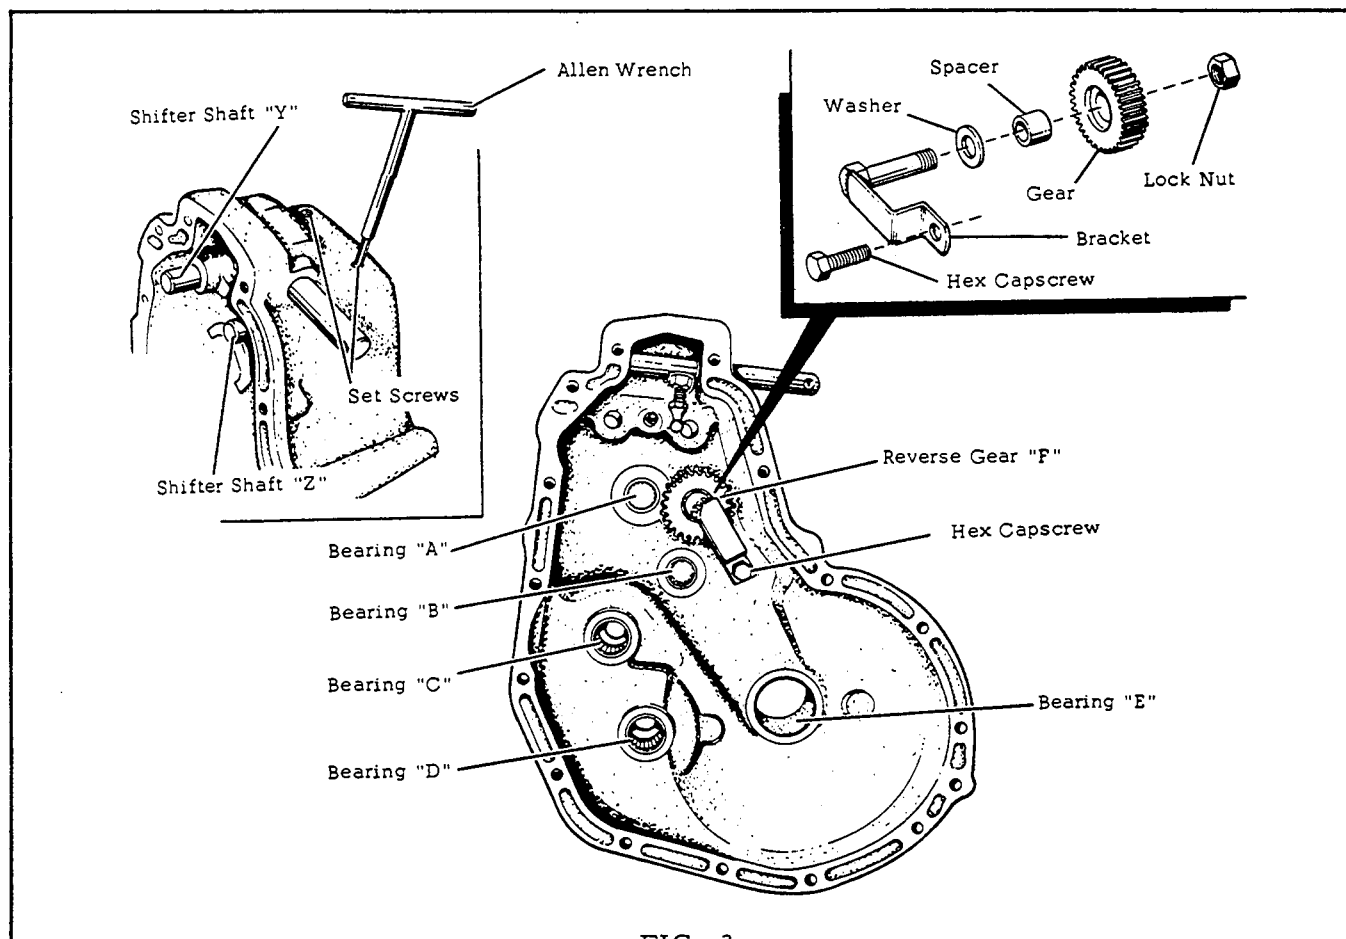

FIG. 3
3. Assemble the shifter fork assembly with the longer shaft into the "Y" shaft hole of the transmission. Take care to be sure that the setscrew, which holds the shaft in place, is actually locked into the setscrew hole of the shifter shaft. Now assemble the shorter shaft into the "Z" shaft hole of the transmission and lock in place in same manner as other shifter fork assembly. See Fig. 3.
4. Assemble the reverse gear "F" as shown in Fig. 3. When properly assembled, insert the gear assembly into the transmission case and position the bracket over the mounting hole in the case. See Fig. 3. Fasten the bracket to the case with a hex capscrew and tighten to 20 ft. lbs. $+0$ lbs. -3
6. Place a greased flat washer over face of bearing "A" in transmission case. See Fig. 3 & 4. To install shaft "A" and gears, first move the "Y" shift fork into Neutral (See dis-assembly instructions) and move the "Z" fork into raised position (see dis-assembly instructions). Raise the gear cluster on shaft "B" slightly and move shaft "A" toward the shift forks. When you slide the shift rings on the gear assemblies into position against the shift forks, it should be possible to lower shaft "A" into place in its bearing.